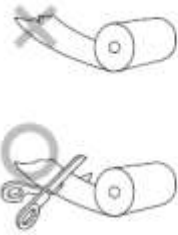

Fig. 1
1. Insert the leading edge of the paper roll into the opening. (Fig. 1)